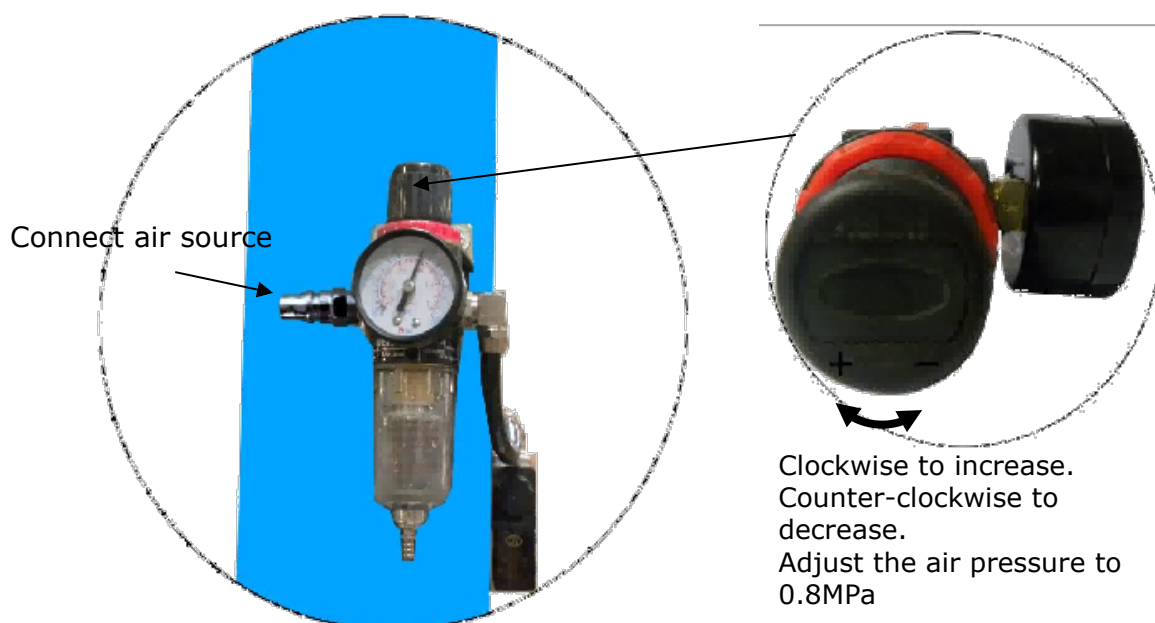

Fig. 46
5. Connecting air inlet , adjusting the air pressure of Oil-water separator to 0.8 MPa (See Fig. 46).